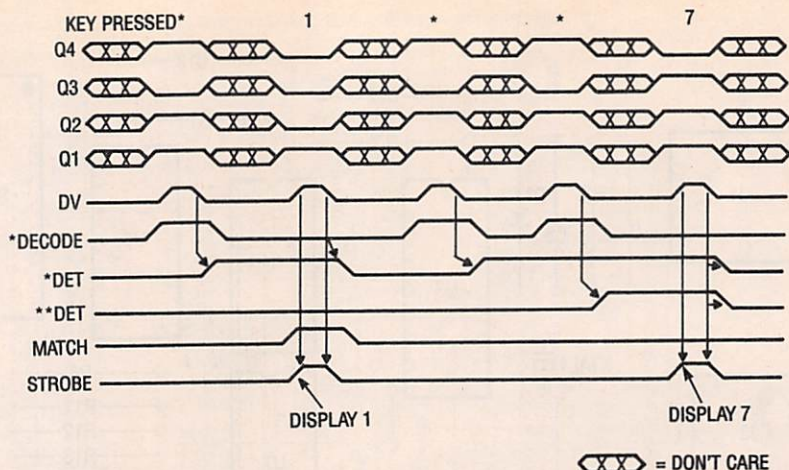

Fig. 2. This timing diagram in Fig. 2 shows the sequence that occur when a valid DTMF signal is detected.
The BCD outputs of U3 are fed along three paths. In the first path, U3's outputs are fed to a pair of AND gates (Q_1 and Q_2 to U2-a and Q_3 and Q_4 to U2-c) whose outputs are then AND'ed together via U2-b, the output of which is fed to the D-inputs of flip-flops U6-a and U6-b, which are both clocked by the negative edge of the inverted Data Valid (DV) signal (pin 15 of U3). Flip-flop (U6-a) simply remembers if the previous keystroke was an asterisk. The timing diagram in Fig. 2 shows that in more detail. Flip-flop U6-b is used to detect the occurrence of a two-asterisk keystroke. That flip-flop is held reset (by feeding the output of U6-a to U6-b's clear input at pin 13) until a second asterisk keystroke is detected; once a second asterisk is detected, the flip-flop is set and remains set until a non-asterisk key is depressed. The output of U6-b is then fed to pin 5 of U4-b.